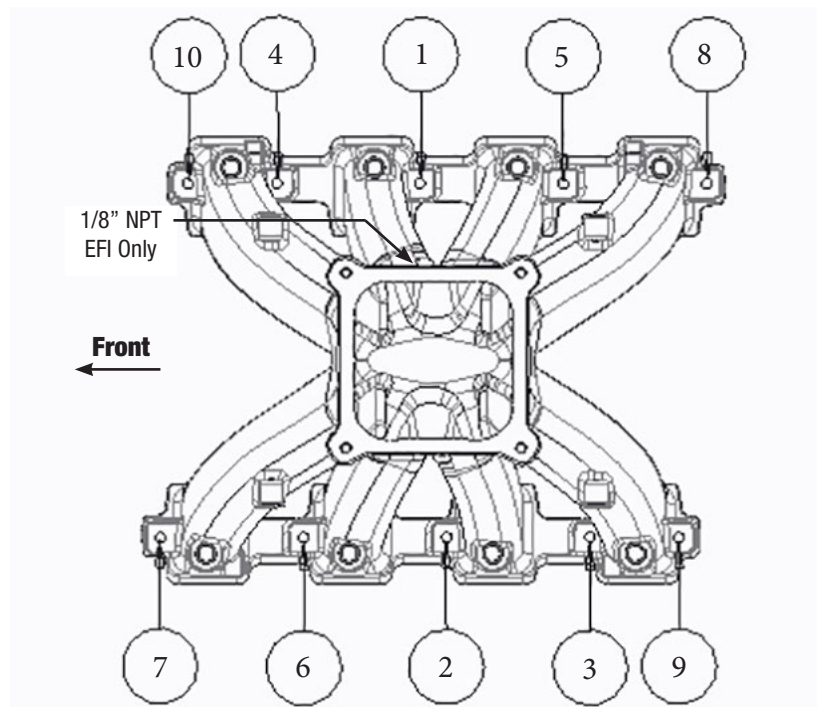

Figure 1 - Intake Manifold Tightening Sequence
1. Use original equipment, GM #89017852, intake manifold O-Ring gaskets. As mentioned above, due to the larger port exits on these manifolds, the GM O-Ring gaskets will require a little stretching to fit into the O-Ring grooves. This will have no effect on how the O-Rings seal. Gasket sealer is not required when using OEM type gaskets. Using appropriate mounting hardware (not included) to mount the manifold to the engine. Following the torque sequence in **Figure 1**, torque all manifold bolts to 96 in/lbs (8 ft/lbs).